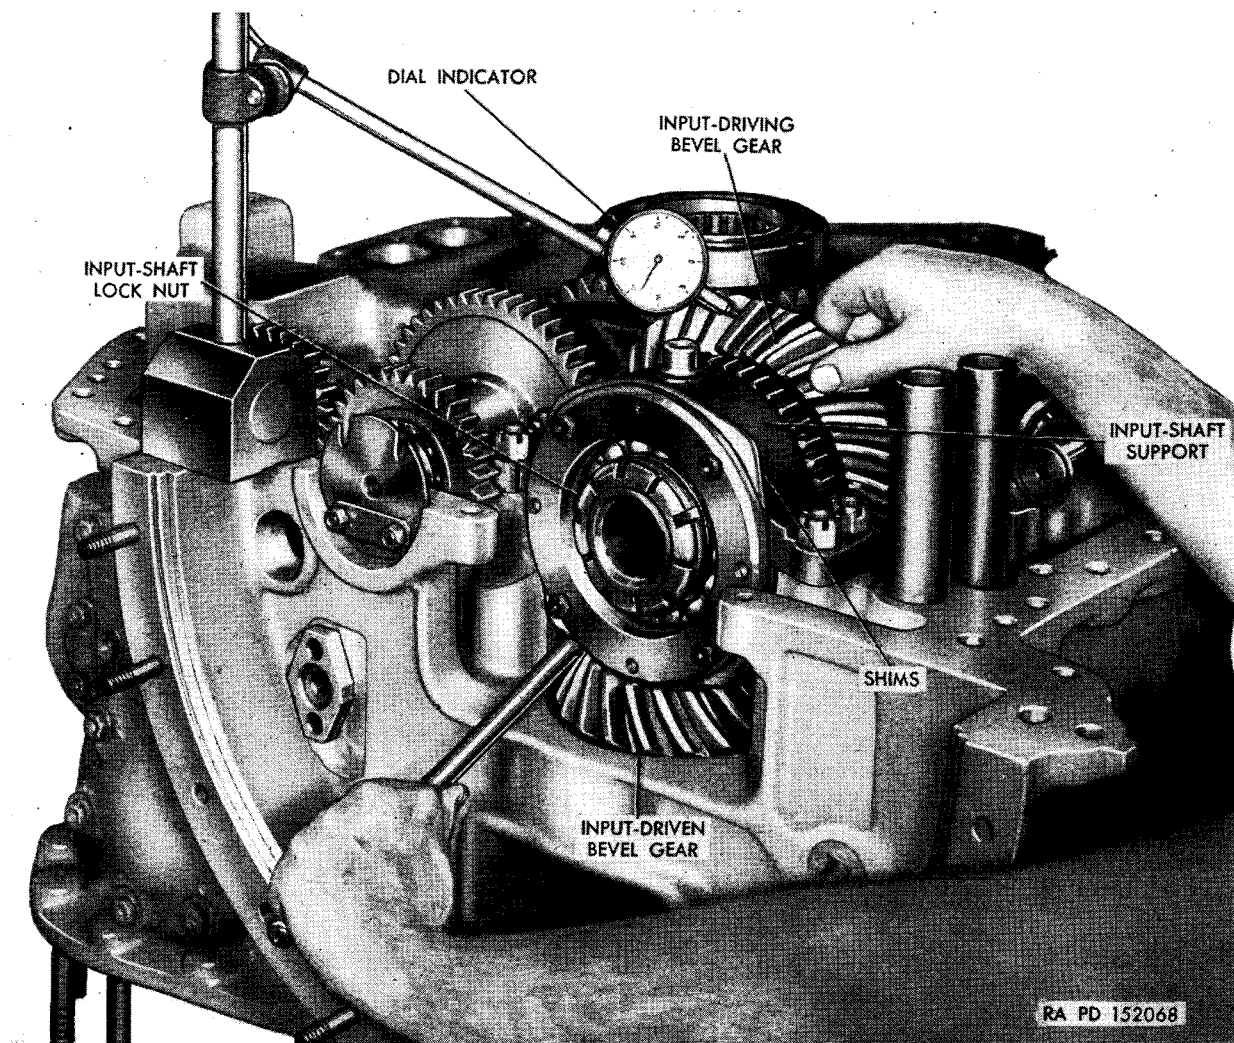

Figure 329. Input-driving-bevel-gear backlash check.
ular to the tooth surface (fig. 329). The backlash will be shown by the indicator when the free gear is moved back and forth. Release the held gear and rotate the gear set several times. Check the backlash again at a different point on the free gear. Repeat this procedure several times. Take the lowest backlash obtained as the minimum backlash of the gear set, for the adjustment procedures.
- (8) Before checking the backlash and pattern on the input bevel gear set, be sure that the input shaft and driving bevel gear supports are fastened securely to the housing. The lock nut on the input shaft must be torqued to 300 pound-feet. The converter drive gear and the lock nut must be installed on the driven bevel gear and the lock nut torqued to 350 pound-feet.
- (9) Check the backlash (fig. 329) and pattern ((3) and (4) above) on the input driving bevel gear. The ideal pattern is a central toe pattern that is centered slightly above the pitch line on the tooth surface (B of fig. 330). More of the pattern area should be on the addendum or face of the gear tooth. If the proper pattern is not obtained with nominal shims, refer to figure 330, items D, E, F, and G and to the instructions. Move each gear, if necessary, according to the instructions by installing or removing shims. Again check the backlash and mesh pattern. Repeat this procedure until a central toe pattern is obtained with a *minimum* backlash between 0.006 and 0.012 inch ((3) above). In this case disregard the backlash etched on the gear.
- (10) Before checking the backlash and pattern on the converter-output bevel gear set, be sure that bolts holding the converter-output-bevel-gear-shaft bearing